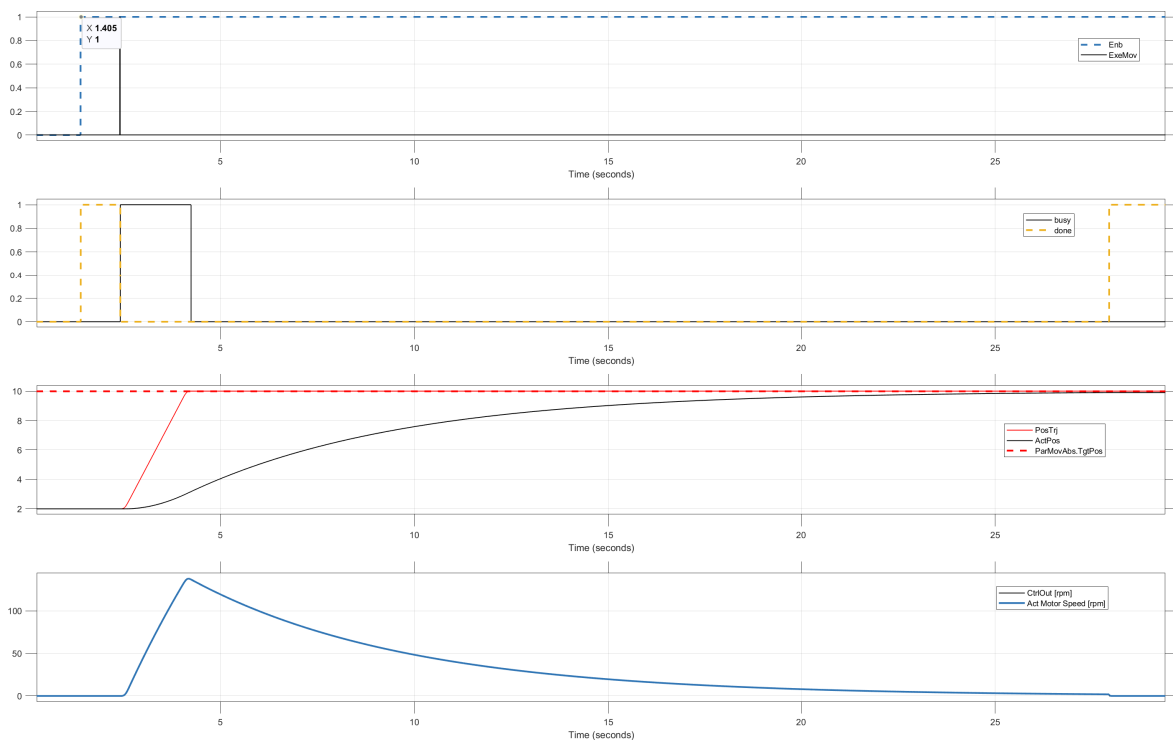

Figure 18: K_p increased to 20, still small!! ($K_p = 20$, $K_i = 0.0$, GainFwdSpdCtrl = 0.0, GainBwdSpdCtrl = 0.0, Window = 0.2mm, TuneTime = 0.3s)
- Objective: Continue this process until the position trajectory (*PosTrj*) and the actual position are parallel, indicating proper tuning. see figures 18, 19 and 20.